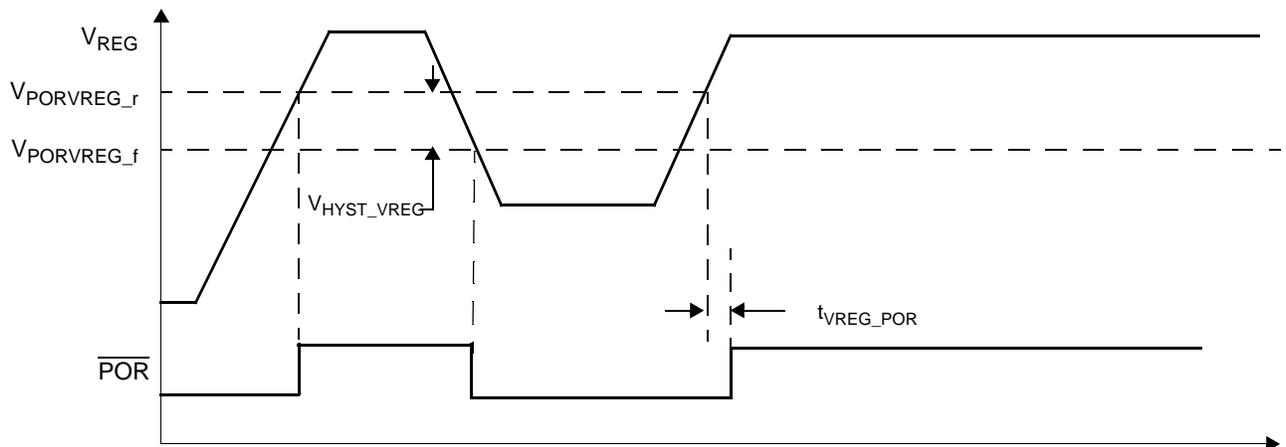

Figure 6. V_{REG} Under-Voltage Detection
| 87 | V_{REG} Under-Voltage Reset Delay (See Figure 6) $V_{REG} < V_{PORVREG_f}$ to POR assertion | t_{VREG_POR} | — | — | 5 | μ s | (3) |